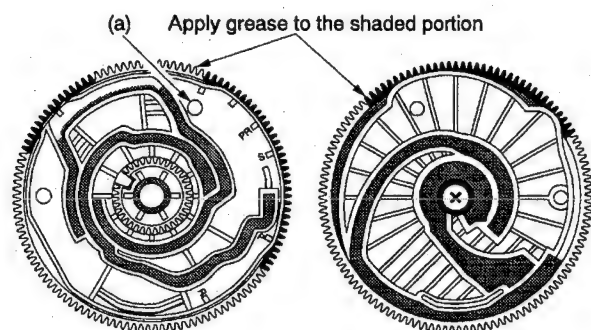

Fig. 2-1-55
6. Apply grease on a new cam gear on the shaded portion as shown in Fig. 2-1-55 and the shaft of the main base.
8. Push the cam lever (1) and the pin (2) (loading slider) in the direction shown by the arrows (A) and (B).
9. Mount the cam gear at the angle which the small hole (a) on the cam gear aligns with the hole on the mechanical deck. (Refer to Fig. 2-1-55.)